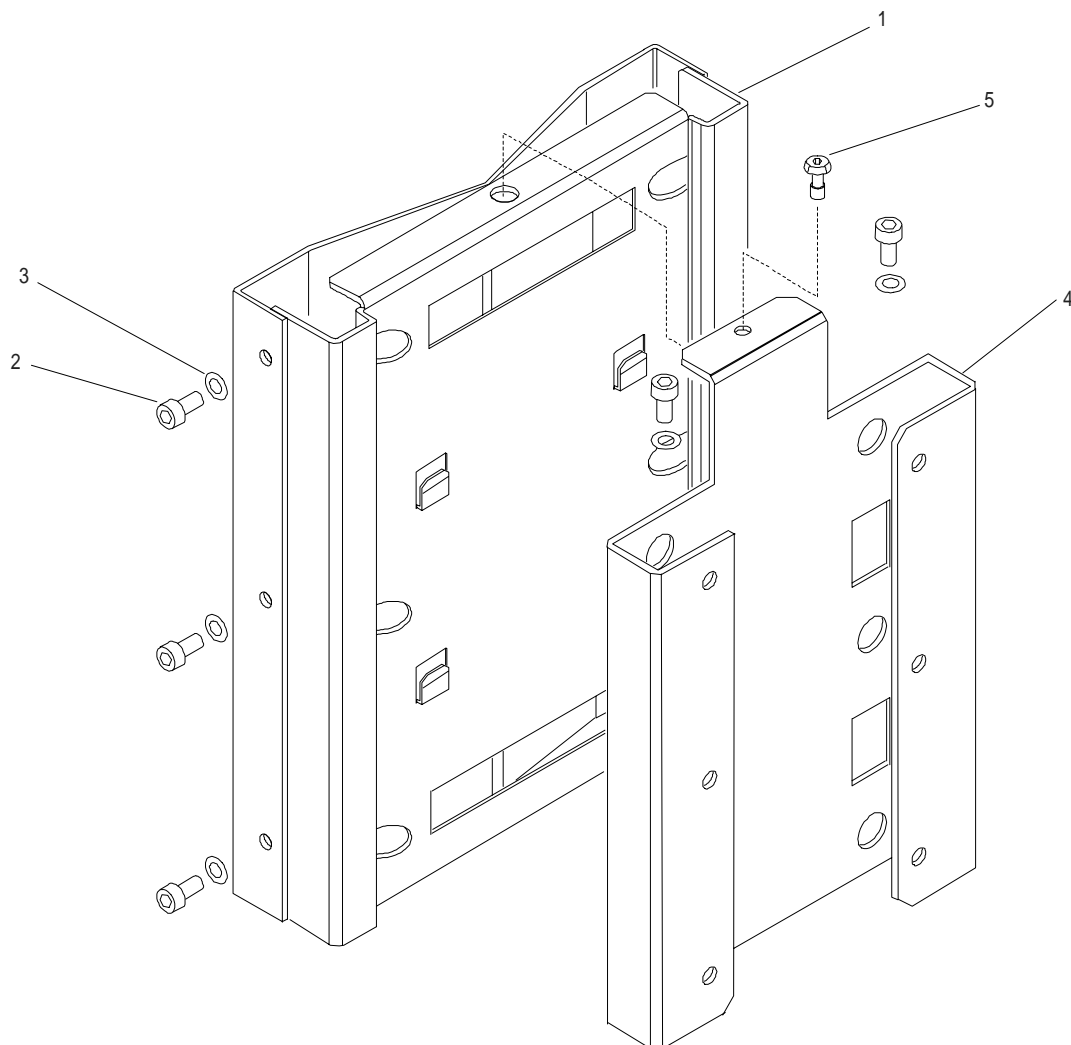

Fig. 2.4. BTSE: Wall mounting frame
- With reference to Fig. 2.4. fasten bracket (1) to the wall using six diameter 8 (2) screws and relative washers (3).
- Connect the BTSE (furnished joined with bracket (4)) to bracket (1).
- Tighten the M5 hexagonal head cap screw (5) using the proper wrench supplied.